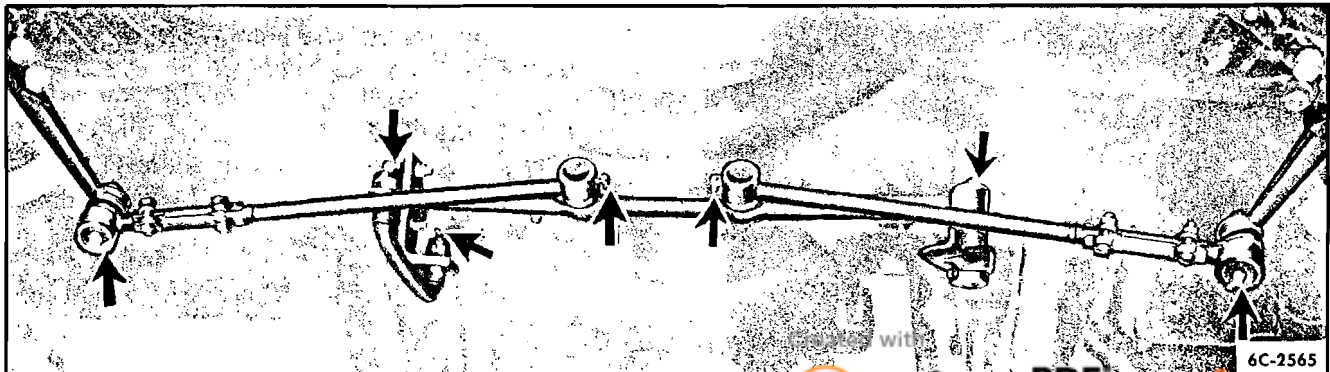

Fig. 6—Steering Idler Arm Bushings, Tie Rod and Connecting Link Ball Studs
5. STEERING IDLER ARM BUSHINGS, TIE ROD AND CONNECTING LINK BALL STUDS. Lubricate seven lubrication points with chassis lubricant. Use pressure gun. See figure 6.